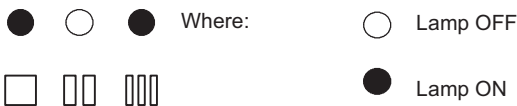

Figure 10.21
- 4 Press the reset button D repeatedly (4 times) until the lamps F give the indication as in Figure 10.21 (setting the d.h.w. flowmeter mode operation).